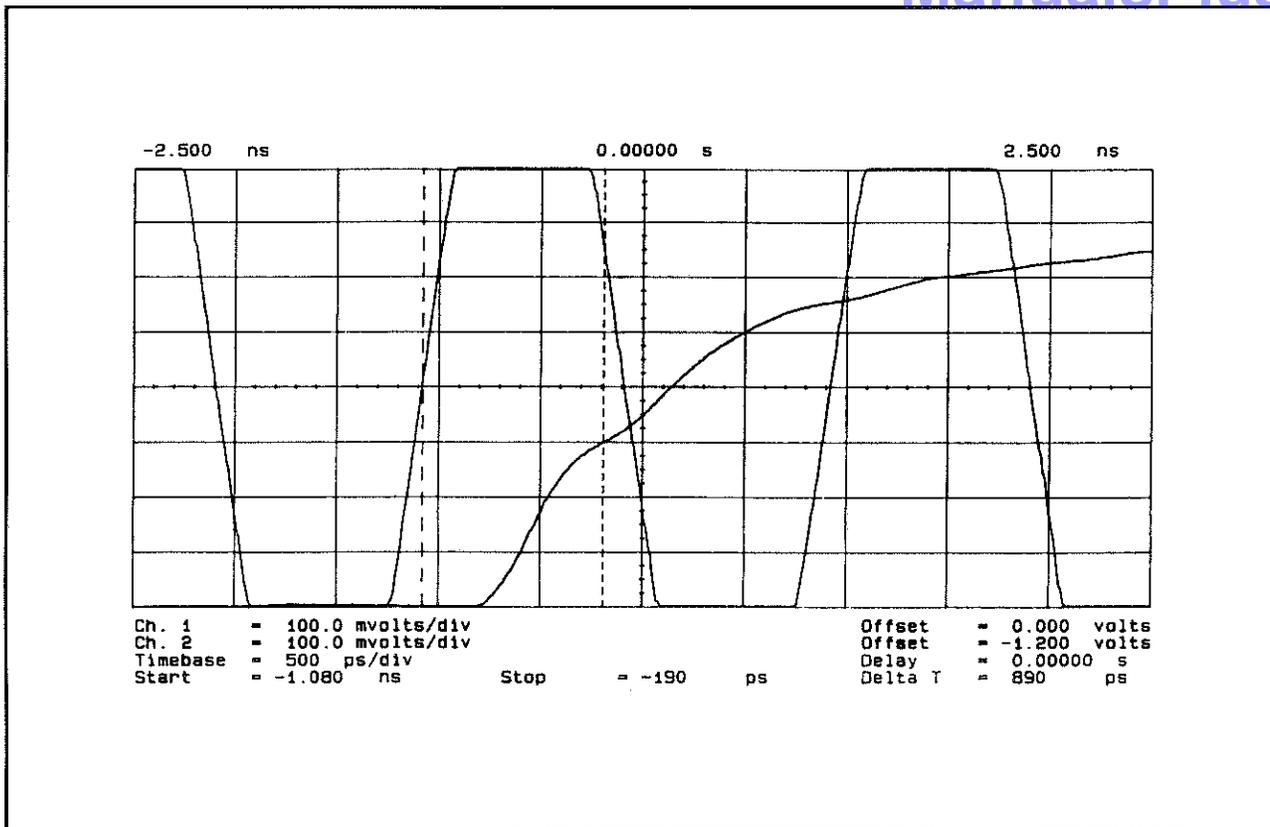

Figure 3-8. Oscilloscope Display of CI1 and CLKA
- A. The 54100A Oscilloscope displays the 500 MHz reference frequency (CLKA) on input channel 1, and the CI1 leading edge on input channel 2. The oscilloscope display should now be similar to *Figure 3-8*.
- D. Using the 54100's rotary knob, set the STOP MARKER on the rising edge of CI1 signal on channel 2 at -1.3 Volts. (The STOP MARKER must be place to the right of the START MARKER.) See *Figure 3-8*.
- M. The 54100A Oscilloscope should again display the CI1 and 500 MHz reference frequency (CLKA) signals as shown in *Figure 3-8*. Adjust the oscilloscope delay to center the CI1 edge. Return to Step B.